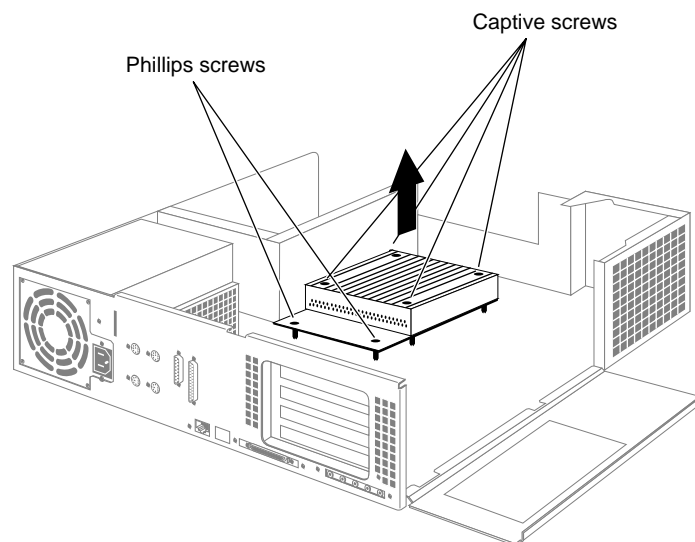

Figure 9-12 Removing the CPU Module
4. Remove the CPU module, as shown in Figure 9-12.